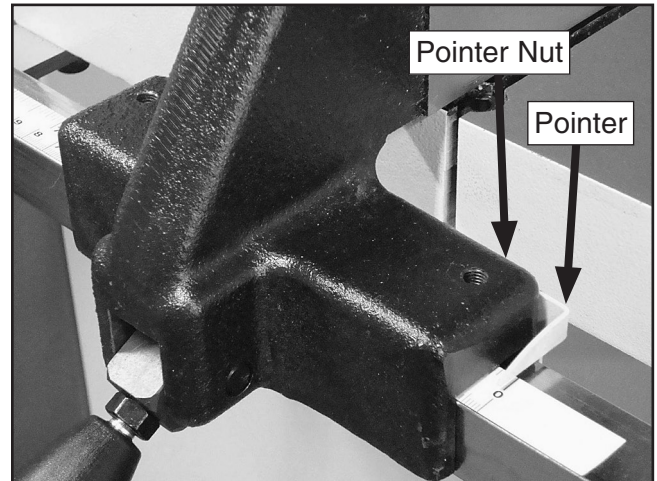

Figure 12. Calibrating fence pointer (screw out of view).
3. Loosen the pointer adjustment nut (Figure 12) and set the pointer in line with "0" and the measurement scale on the table.